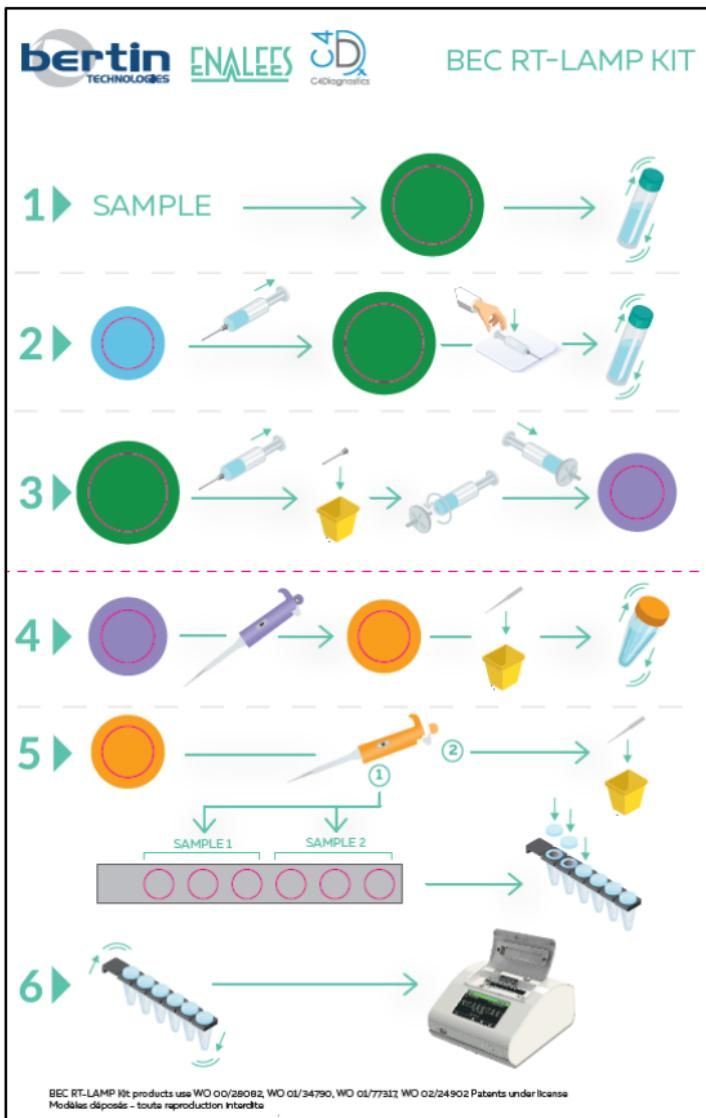

Figure 2: Rack that is provided for easy handling of the tubes.
- A cardboard rack, which makes it easier to handle the tubes, see Figure 2.
- Place the different tubes on the cardboard rack provided with the kit, respecting the color codes, see Figure 2. **Do not open the tubes at this stage.**
- Open the green tube (BEC SARS-CoV-2 Lysing Buffer (green)) in position 1 on the rack (see Figure 2).